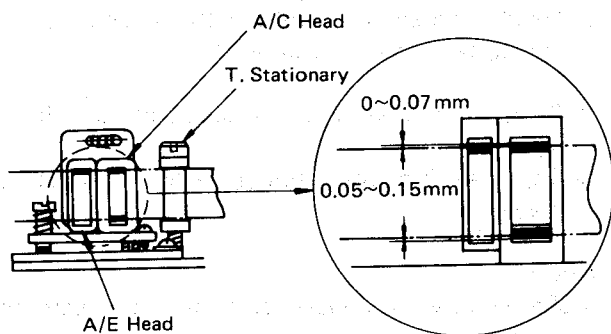

Figure 25
3. Check that the A/C head has the height and tilt shown in Figure 25 with respect to the tape.
- \* If there is any abnormality in the travel mode, carry out the following adjustments with reference to Figure 23 and Figure 25.
4. If adjustment is needed, adjust by means of screw ②. Turn screw ② little by little.
5. The height of the A/C head should be positioned with respect to the tape as shown in Figure 25.
6. Adjust the height, tilt, and azimuth of the A/C Head as shown in Figure 25.